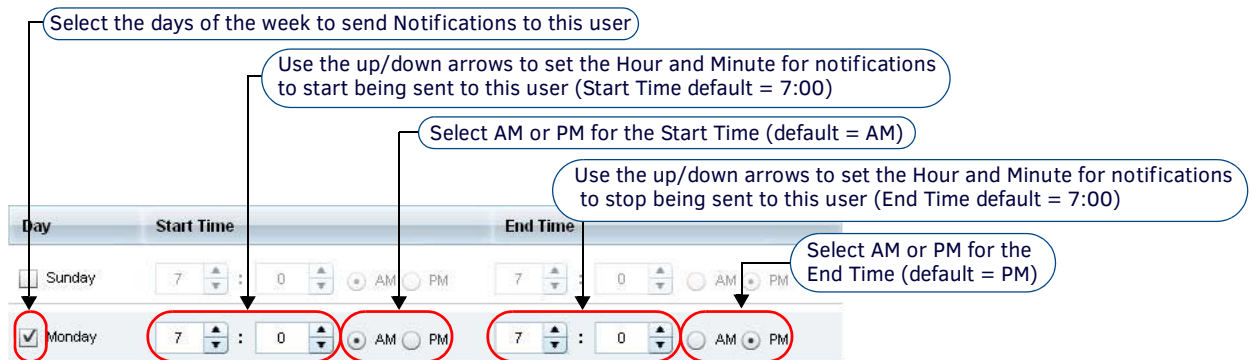

FIG. 313 Notification Schedule options
3. Select the *Only Send Notifications According to Schedule* option. This action enables the notification schedule calendar (FIG. 313):